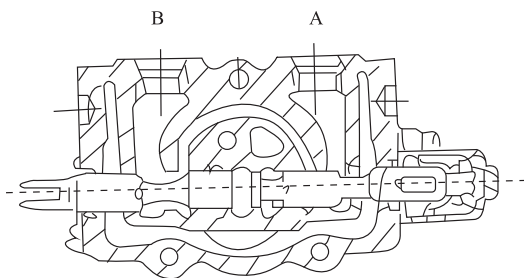

Fig. 7-3
(2) Pushing-in of spool (See Fig. 7-3)